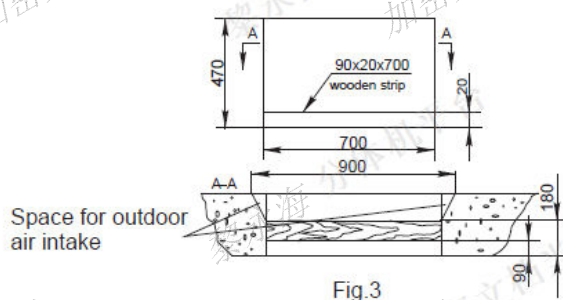

Fig.3
3. The square hole should be smooth enough if the appliance is installed through a wall. A space as shown in fig.3 for outdoor air intake should be prepared if the wall is too thick.